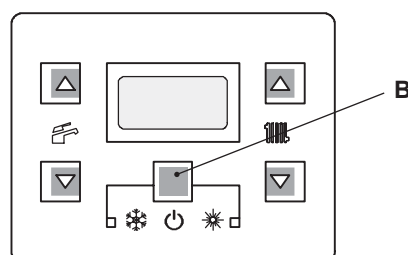

Figure 9.10
- 6 To memorize the setting press the key ("B" Figure 9.10).